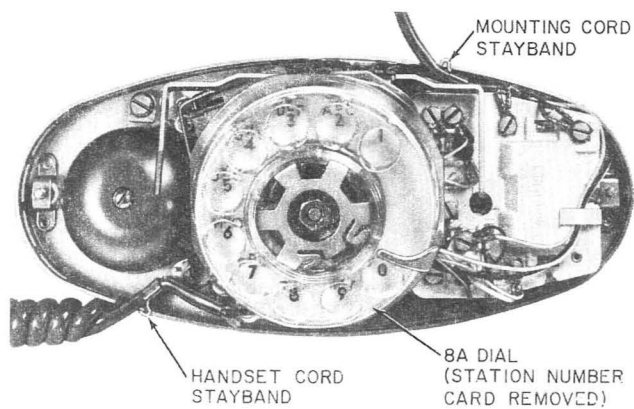

Fig. 9—702-Type Telephone Set (Interior View)
- (a) Remove dial from base without disconnecting leads and lay to side. Install handset and mounting cords, secure staybands to base (Fig. 9). Connect leads per Table C and replace dial.